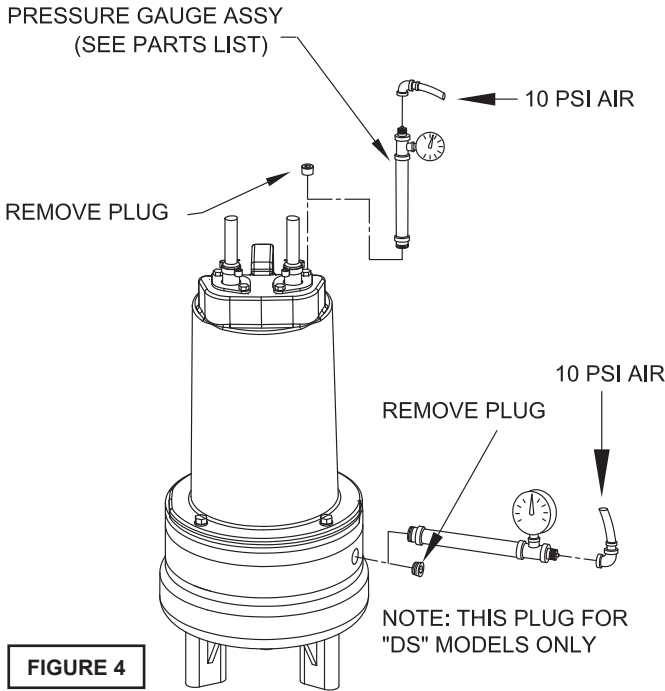

FIGURE 4
Pumps that have had the oil drained from the Motor Housing - Apply pipe sealant to pressure gauge assembly and tighten into pipe plug hole (See Figure 4). Pressurize motor housing to 10 P.S.I. Use soap solution around the sealed areas and inspect joints for "air bubbles".
Pumps that have NOT had the oil drained from the Motor Housing - The pressure test may be done with the oil at its normal level. Remove pipe plug (39) from motor housing (6). Apply pipe sealant to pressure gauge assembly and tighten into hole (see Figure 4). Pressurize motor housing to 10 P.S.I. Use soap solution around the sealed areas above the oil level and inspect joints for "air bubbles". For sealed areas below the oil level, leaks will seep oil. If, after five minutes, the pressure is still holding constant, and no "bubbles"/oil seepage is observed, slowly bleed the pressure and remove the gauge assembly. If the pressure does not hold, then the leak must be located and repaired.
To clean out volute (1) or replace impeller (33) or U-cup (57), disconnect power, remove hex bolts (26), and lockwasher (12), vertically lift motor and seal plate assembly from volute (1), see Figure 4. Clean out body if necessary. Check U-cup (57) for damage. If U-cup needs replacement, cut the U-cup from the volute (1) and clean surface of bore. Clean and examine impeller (33), for cracks or breakage and replace if required, inspect gasket (36) and replace if cut or damaged. If the impeller (33) needs replacing, place a flat screwdriver in the slot of the end of the shaft to hold the shaft stationary while unscrewing the impeller (33).